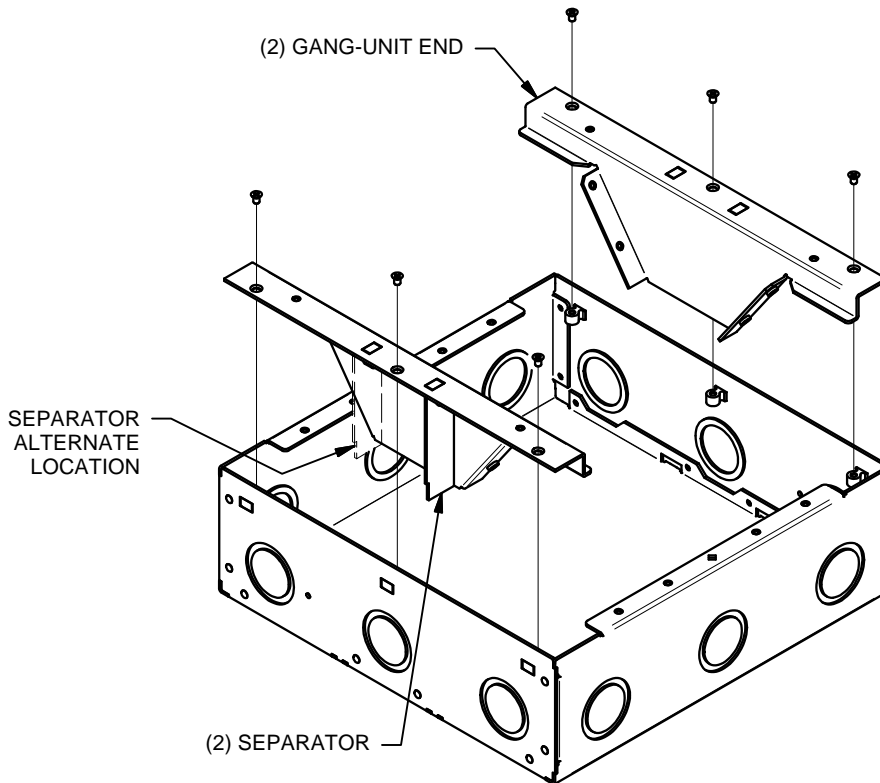

FIGURE 2
2. REMOVE UPPER/LOWER GANG-UNIT END FROM CHASSIS AS SHOWN IN FIGURE 2, SETTING GANG-UNIT ENDS AND SCREWS ASIDE.
5. GANG-UNIT END SEPARATOR IS MOVEABLE SIDE-TO-SIDE OF CENTER OF END, OR CAN BE REMOVED ALTOGETHER. AFTER DETERMINATION OF SEPARATOR, REINSTALL GANG-UNIT ENDS AS SHOWN IN FIGURE 2.